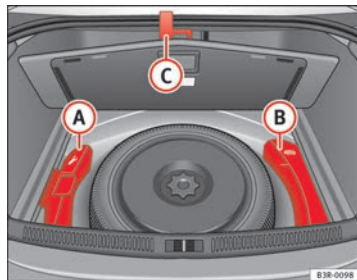

Fig. 180 Toolbox and jack
The tools (A) and jack (B) ⇒ fig. 180 are stored under the floor panel in the luggage compartment.
- Hook the handle (C) onto the luggage compartment weather-strip.